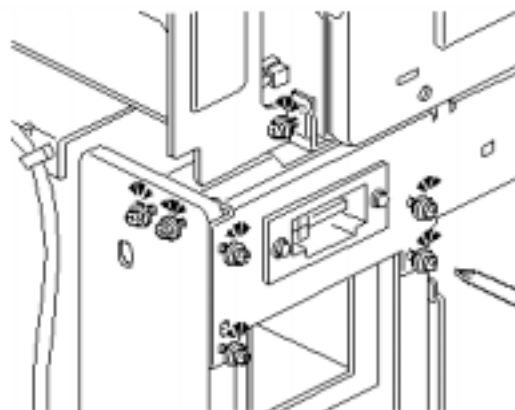

Fig. 2: (similar view)
4. Loosen all 7 screws (Fig. 2) and lift up the left front portion of unit until there is a 1 to 2 mm gap between the two.